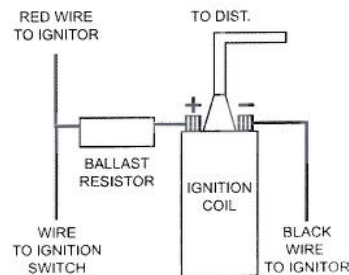

FIGURE 2
11. For installations that do not use a primary ballast resistor, connect the red Ignitor wire to the positive (+) side of the ignition coil (See Figure 2).
5. The red wire from the Ignitor should be connected to the positive (+) side of the coil, or a 12-volt switching power source. (See Figure 2 & 3). The black wire must be connected to the negative (-) side of the coil.